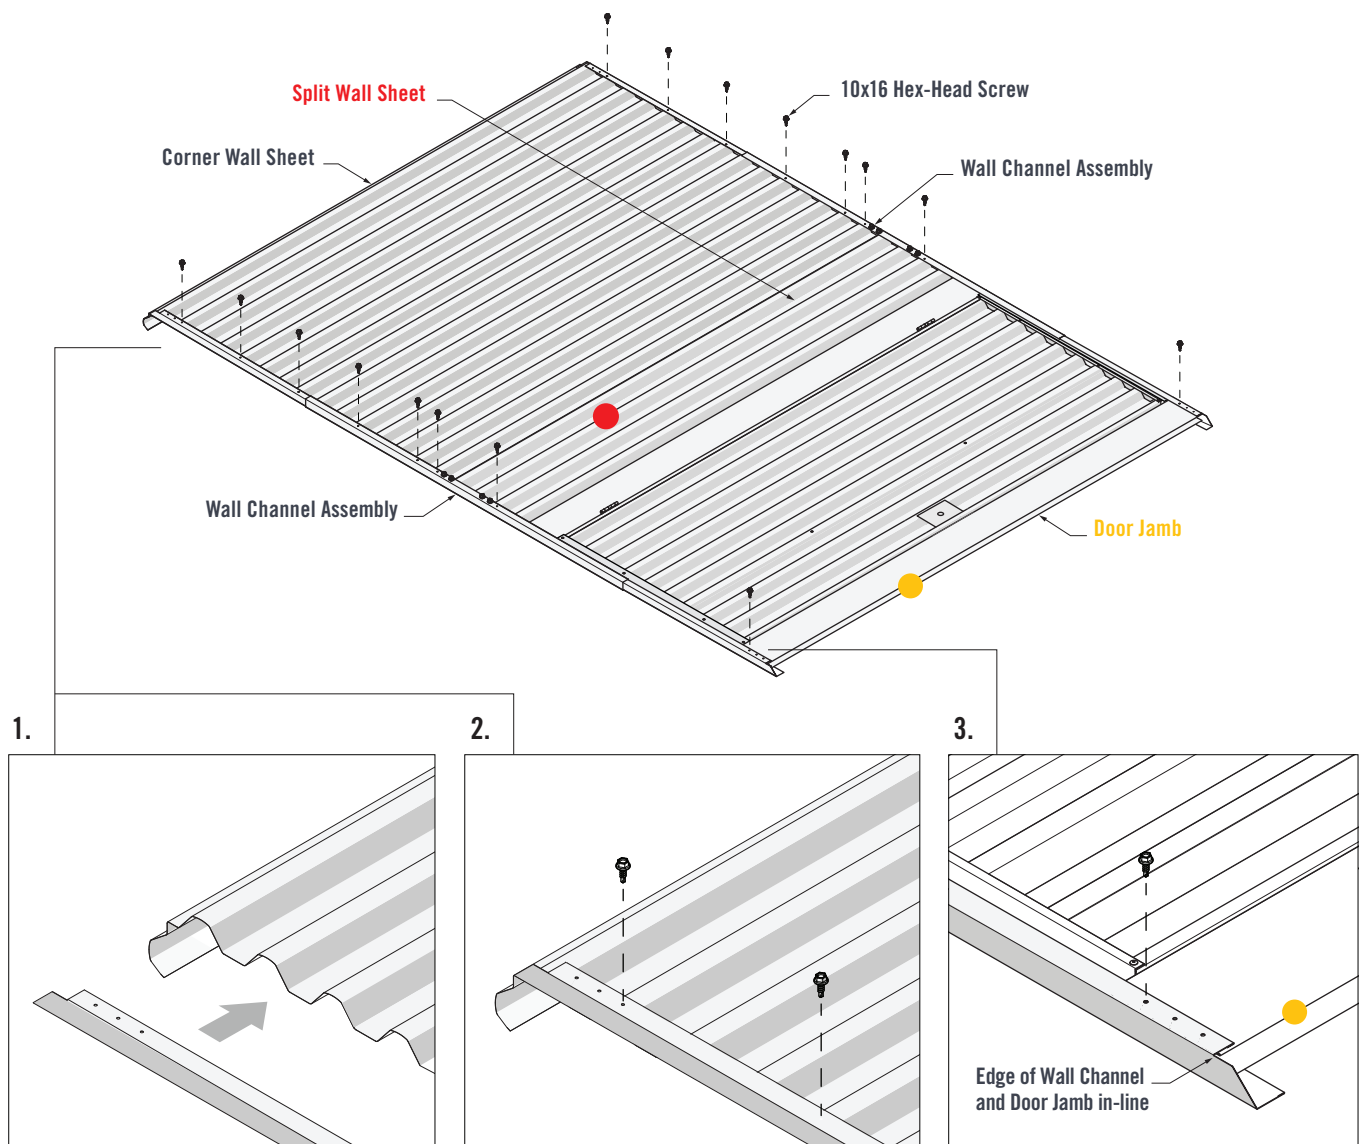

FIGURE 5.2
1. Fit two Wall Channel Assemblies over the lapped Wall Sheets and Door Jamb. The end of the Wall Channels should fit up against the end of the Corner Wall Sheet (Figure 5.2).
2. Fasten one 10x16 Hex-Head Screw through the third pilot hole of the bottom and top Wall Channels and into the Corner Wall Sheet crest. Fasten six 10x16 Hex-Head Screws through the bottom and top Wall Channels and into every third Wall Sheet crest (Figure 5.2).
3. Ensure the edge of the Wall Channels and Door Jamb are in-line. Fasten one 10x16 Hex-Head Screw through the third pilot hole of the bottom and top Wall Channels and into the Door Jamb (Figure 5.2).